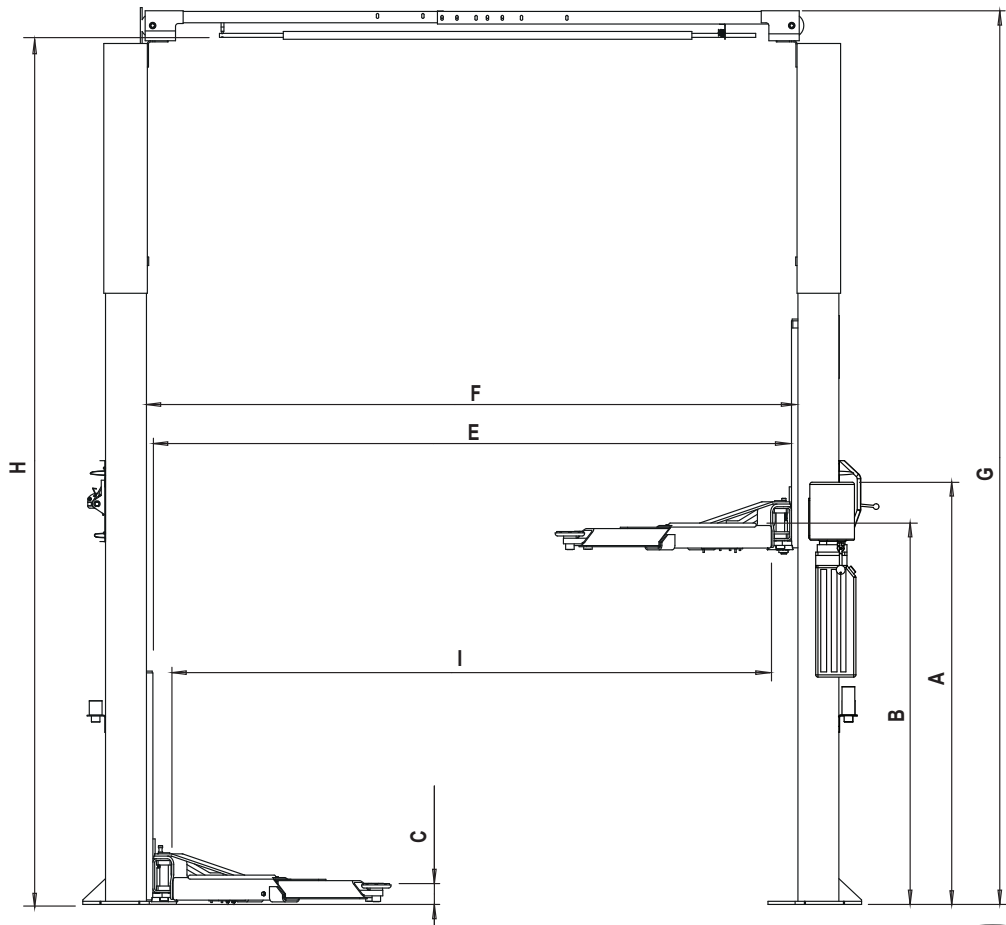
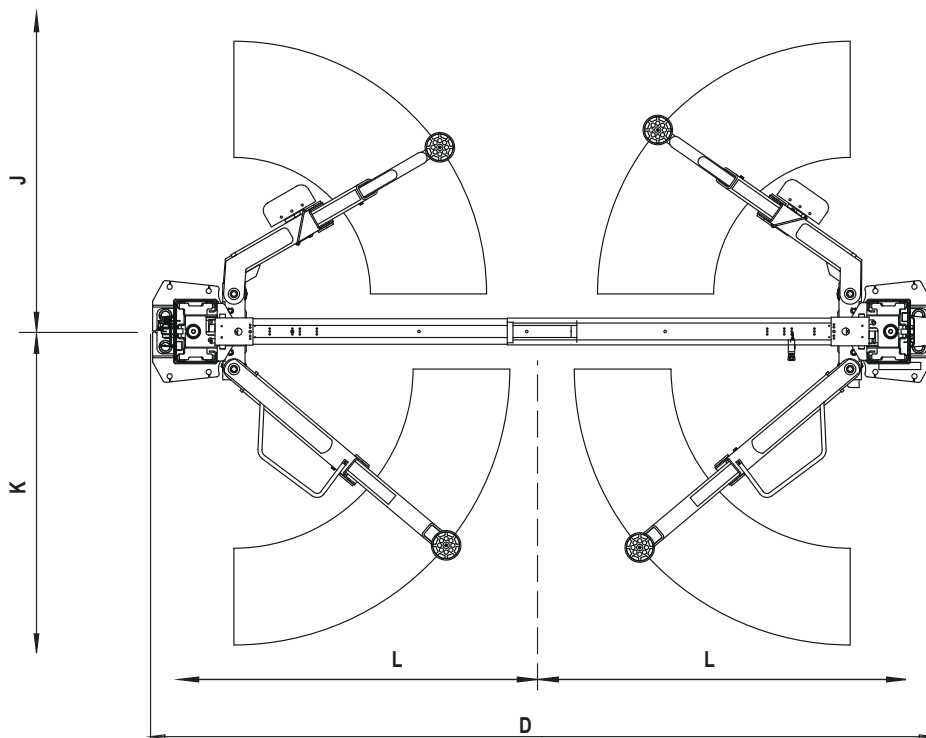

Fig. 2a
Fig. 2b
- Lift Location:** Use architects plan when available to locate lift. Fig. 2a & Fig. 2b shows dimensions of a typical bay layout.